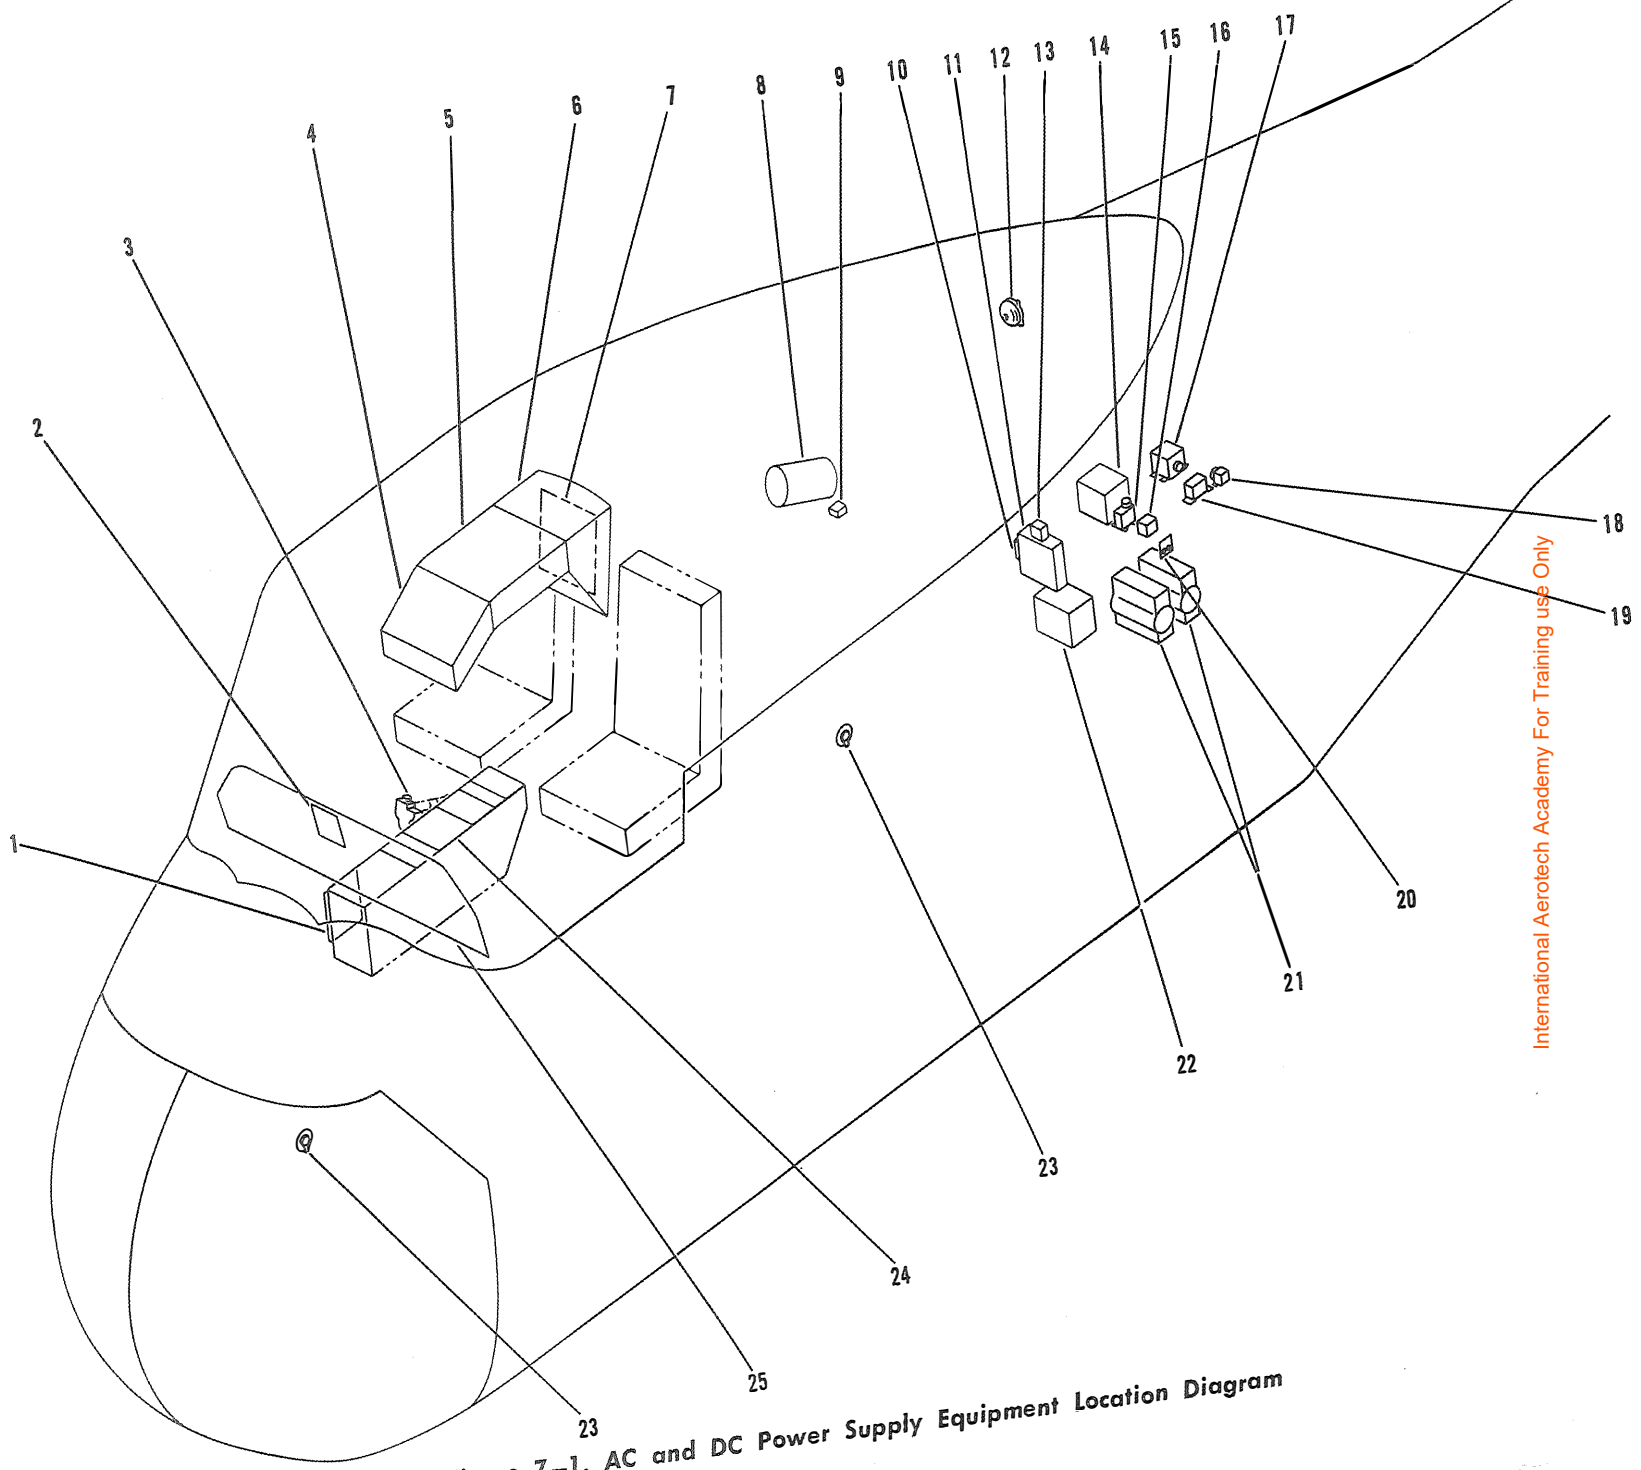
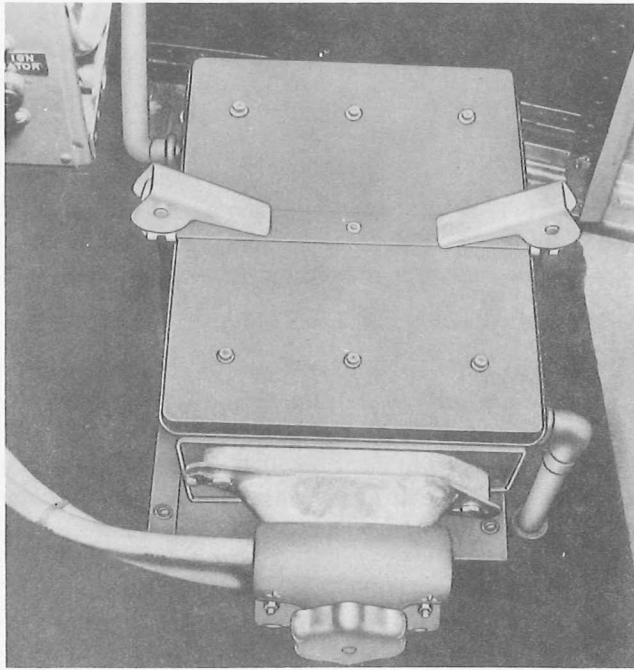

Figure 7-1. AC and DC Power Supply Equipment Location Diagram
Figure 7-4. Battery Installed
7-2. DESCRIPTION. (See figure 7-1.) The model H-34A helicopter has two electrical supply systems: a 28-volt dc system (paragraph 7-5) and an ac system (paragraph 7-104) which provides both 115 volts and 26 volts. Both systems are of the single-wire type with circuits completed through the helicopter structure except for the ac phase C-A circuits which are two wire. Operating switches and warning lights for both the dc and ac systems are on the main switch panel (2, figure 7-1) at the center of the instrument panel. When on the ground, the helicopter is kept at ground potential by a static ground wire attached to the left main landing gear.
7-6. DESCRIPTION. DC power is supplied by any one of three sources: the generator (paragraph 7-7), the battery (paragraph 7-43), or an external power source (paragraph 7-50). The three dc power sources are connected at the power relay junction box (11, figure 7-1) to the dc power distribution system (paragraph 7-52). Components of the dc power supply system are a generator, a voltage regulator, a generator field control relay, an overvoltage relay, an ammeter, an ammeter shunt, a battery and an external power receptacle.
7-8. DESCRIPTION. (See figure 7-2.) The generator (8, figure 7-1), which is mounted at the left rear of the main gear box, is rated at 30 volts, 200 amperes, at 3000 to 8000 rpm. It is cooled by a blower mounted adjacent to it and both generator and blower are driven through take-off gears from the tail rotor drive gear (paragraph 5-348). The generator and blower operate only when the engine is in operation and the clutch engaged. Generator terminal "A," the generator shunt field terminal, connects to the "N" terminal on the generator field control relay (paragraph 7-31). Terminal "B," the generator output terminal, connects to the "GEN" terminal on the reverse current cut-out relay (paragraph 7-66). Terminal "D," the generator field terminal, connects to the "D" terminal on the voltage regulator (paragraph 7-18). Terminal "E," the generator ground terminal, connects through the ammeter shunt (paragraph 7-37) to the helicopter structure.
c. Locate the generator field control relay (15, figure 7-1) in the electronics compartment and disconnect the wire from the terminal marked "N." Locate the voltage regulator, remove the shield, disconnect the wire from terminal "D" and tape the wire to prevent accidental grounding.
## Key to Figure 7-1
7-19. DESCRIPTION. (See figure 7-3.) The voltage regulator (14, figure 7-1) is located on the right shelf in the electronics compartment and is designed to maintain generator output between 27.2 and 28.8 volts. Generator output connects to the "B" terminal on the regulator, passes through the carbon pile regulator resistance to the "D" terminal which connects to the generator field terminal "D." A screw-type adjustment is provided for regulating the resistance. Variations in generator output, due to changes in generator speed or load, cause variations in the carbon pile regulator resistance. These variations, in turn, produce compensating changes in generator field voltage which maintain a relatively constant voltage output.
7-26. DESCRIPTION. The overvoltage relay (16, figure 7-1) is located on the right shelf in the electronics compartment. In the event of an overvoltage condition
7-32. DESCRIPTION. The generator field control relay (15, figure 7-1) is located on the right shelf in the electronics compartment. It contains a trip coil, a reset coil and relay contacts. When the trip coil is energized by operation of the overvoltage relay (paragraph 7-25), the relay contacts are opened to disconnect generator output from both the primary supply circuit and from the generator field. This prevents possible damage to both the dc equipment and the generator itself because of excessively high voltage. The generator failure warning light (paragraph 7-70) will come on when the trip coil is energized. When the reset coil is energized by momentarily placing the "GENERATOR" switch (paragraph 7-16) in the "RESET" position, the relay contacts are closed to place the generator back in normal operation.
7-38. DESCRIPTION. The 300-ampere ammeter shunt (9, figure 7-1) is located on the main transmission deck adjacent to the generator. It is connected in series between the generator ground terminal "E" and ground.
7-44. DESCRIPTION. (See figure 7-4.) The 24-volt, 36 ampere-hour battery (22, figure 7-1) is located on the floor at the forward right end of the electronics compartment. It is vented to the outside of the helicopter by a plastic intake tube through the right side of the compartment and by a plastic exhaust tube through the bottom of the compartment. A sump jar containing a neutralizing agent is connected in the exhaust tube line. Floor, bulkhead and skin surfaces in the battery area are covered with acid-resistant paint. Electrical connections to the battery are made through a Cannon quick disconnect. The negative terminal of the battery is grounded.